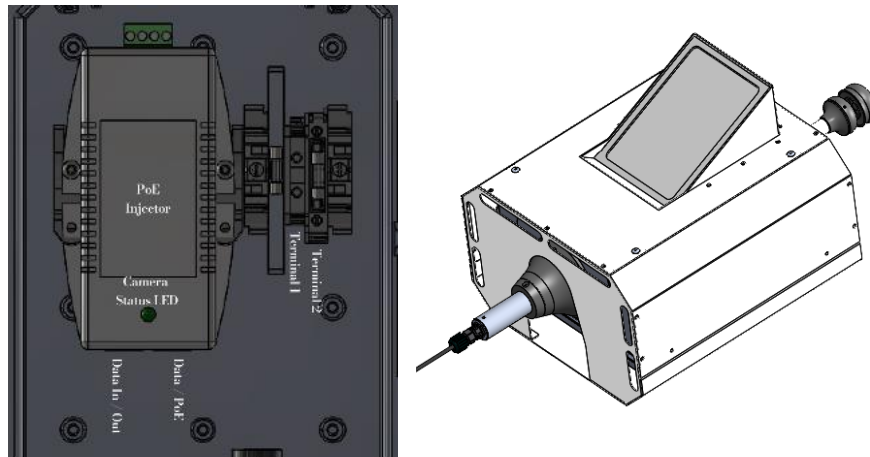

Figure 65 Kuva Power box and camera orientation
1. With the camera laying on its back panel on a clean surface connect the 50' Ethernet cable to the GCI360 camera Ethernet port at the bottom of the camera post, via the RJ45 connection as per Figure 65. The supplied cable has a circular threaded retention mechanism that must be screwed down by hand to secure the power cable to the camera. Turn the ethernet cable locknut counterclockwise slowly until there is a click as the opening of the threads pass each other. Then tighten clockwise gently until the threads are engaged.
2. Next pass the other end of the RJ45 cable through the front of the Kuva Power Box and connect to the PoE injector, using the connection labeled "DATA/PoE" as per Figure 65.
4. The camera status LED (PoE Power LED) will temporarily turn red for approximately 10 seconds and then turn green as per Figure 65.